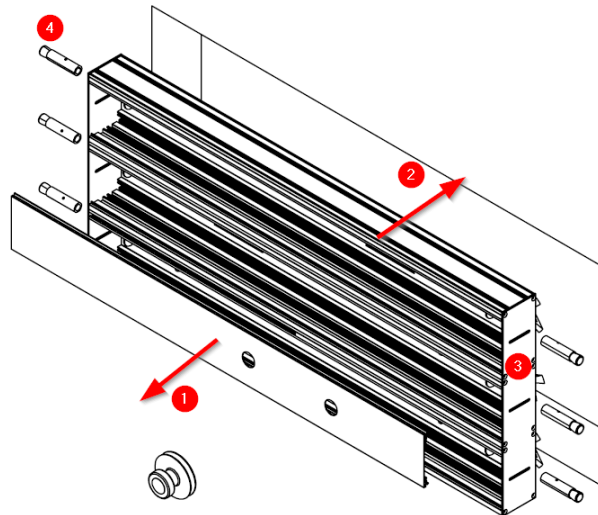

Fig.7 Mounting the equipment in the housing
The equipment can now be pre-positioned in the housing (2) and the anchoring of the equipment can be completed using the screws (4) that correspond to the mounting surface (see points 4.2.1 and 4.2.2 of this manual). (See Fig. 7).